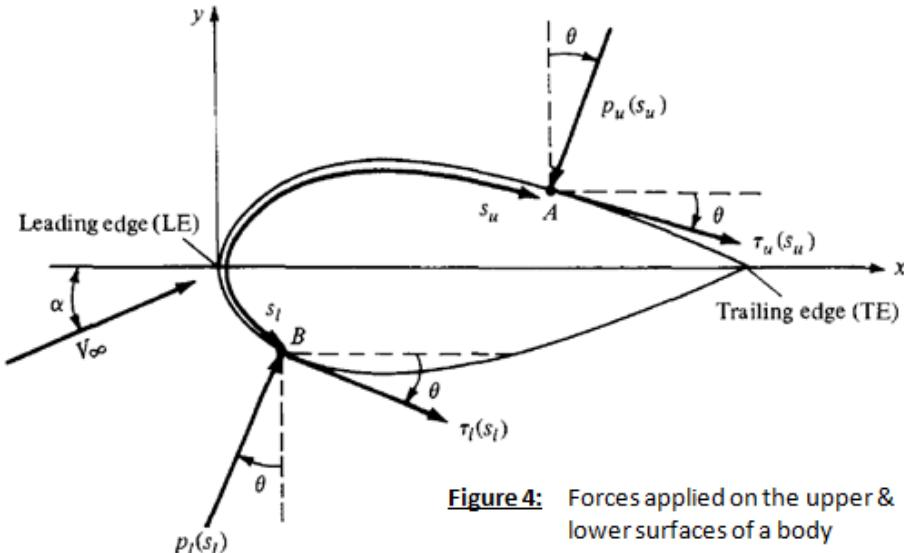
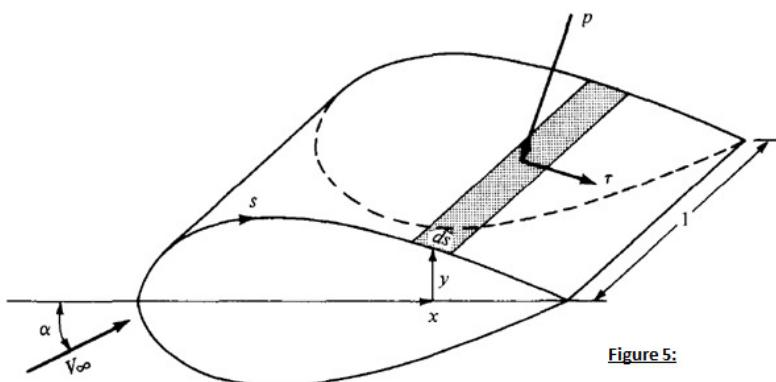

Figure 4: Forces applied on the upper & lower surfaces of a body
Figure 5:
Consider the 2-dimensional body defined by figure 4
Now consider the 2D shape in figure 4 as a cross-section of an infinitely long cylinder of uniform section (**a unit span**) such a cylinder is shown in figure 5. Consider an elemental surface area (ds) of this cylinder, where $ds = (ds) \times 1$
Consider the aerodynamic moment calculated about the leading edge (LE). The moment per unit span about the leading edge due to p & τ (figures 4 & 5) on the elemental area (ds) on the upper & lower surfaces are: